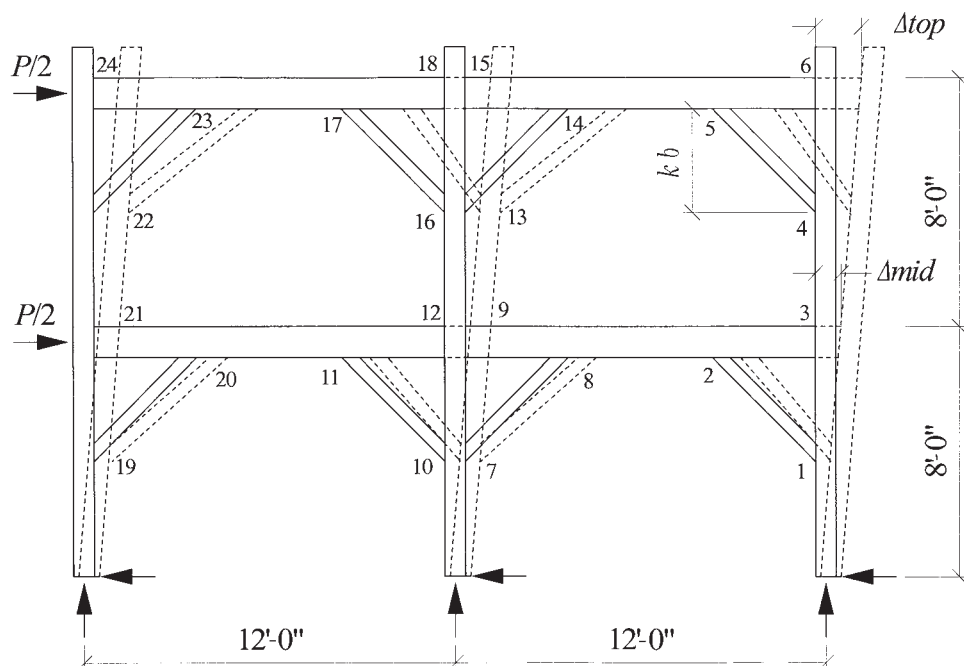

FIGURE 2. DIMENSIONS, LOAD, REACTIONS, DISPLACEMENT AND JOINT NUMBERS.
Brace dimension  $kb$  (Fig. 2) was 36 in. for the Eastern white pine and white oak frames, 30 in. for the Douglas fir and Port Orford cedar frames. Brace end and edge distances each varied from 1½ in. to 2½ in., and tenon thickness was either 1½ or 2 in. All frames had one peg at each brace joint except the white oak frame, which had two. All frames had full-height continuous posts, with splines connecting the lower beams across the interior post. The Douglas fir and white oak frames also had splines at the connections between the upper beams and the interior post, while the Eastern white pine and Port Orford cedar frames had continuous top beams. The Eastern white pine frame had tongue and fork joints (open mortises) at the outer post tops. All other connections of all frames were typical blind mortise and tenon joints. All joints were fastened by 1-in. oak pegs, with two exceptions: the Eastern white pine frames had ¾-in. pegs at the brace joints, and the white oak frame used 1¼-in. pegs across the splined connections.
**Load and Displacement.** As shown in Fig. 2, two horizontal point loads  $P/2$  were applied at the elevation of each beam by an MTS hydraulic actuator system with a load capacity of 55 kips and available displacement of 3½ in. in each direction (7 in. total). The actuator force was transferred to the upper and lower beams via a load-splitting mechanism, thereby ensuring an equal distribution of the
load. Consequently the displacements at the top and mid-height beams were not necessarily equal, but rather functions of the frame stiffness at the respective height. The applied force was measured with a load cell at the actuator, and displacements  $\Delta_{top}$  and  $\Delta_{mid}$  were measured with string potentiometers at the upper and lower beam levels. Displacement was imposed in both directions; the westerly direction as shown in Fig. 2 was defined as the “push” stroke, the easterly direction as the “pull” stroke.
**OVERVIEW OF TEST RESULTS.** The following paragraphs provide a description of the load cycles for each of the four frames. Brief descriptions of observed joint damage and failure are also included in the following sections (see Fig. 2 for joint numbering). Failure of individual frame joints was observed in many forms, as described in Part I of this series in TF 62. Tenon relish and peg failures were illustrated in that article.